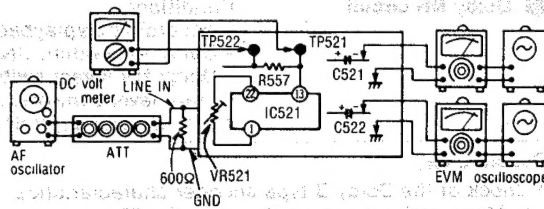

Fig. 25
1. Make the connections as shown in fig. 25 and apply 1kHz -27dB signal from LINE IN, and set the noise reduction selector to dbx IN position.